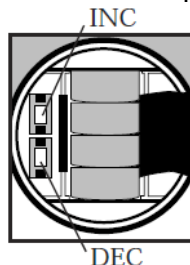

Figure 1. Increase and decrease keys in Oakton EC Testr battery compartment.
1. Open the battery compartment lid. The two white buttons are increment (INC) and decrement (DEC) calibration keys (figure 1).